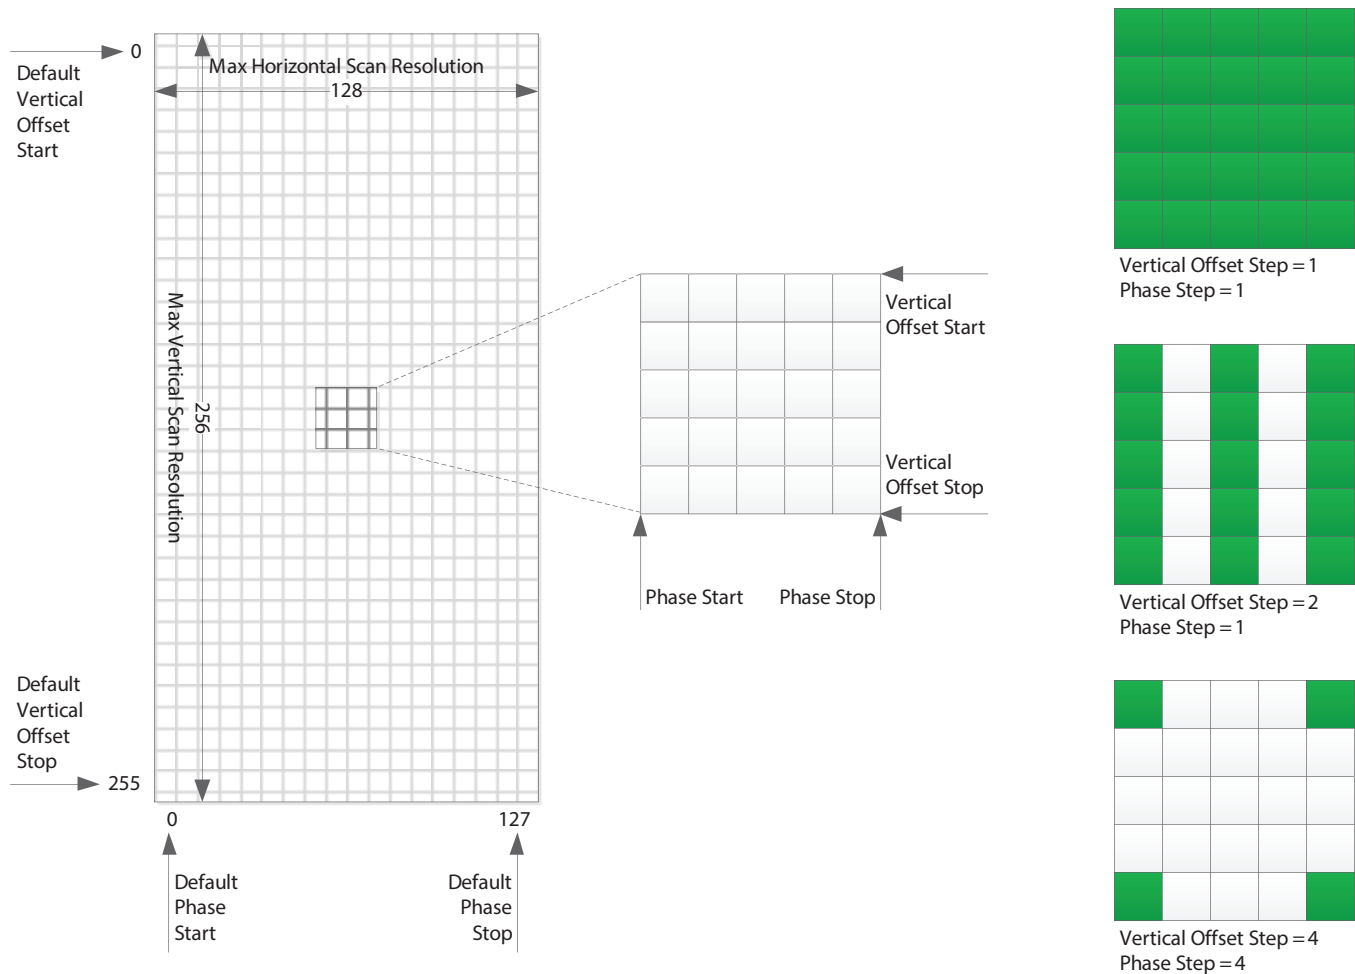

Figure 4-5: Eye Scan Matrix Parameters
Figure 4-5 shows a visual representation of the scan matrix and indicates the spatial parameters that determine the scan area and resolution. Running a scan using the default offset and step parameters, results in 32768 (128x256) samples. The number of samples and thus, the total scan time can be reduced to meet the needs of the application. The scan area can be reduced by reducing the span determined by the vertical and phase start and stop offsets, or the resolution can be reduced by increasing the step size between adjacent samples. On the right in Figure 4-5, there are three step settings used as examples, however there are a total of nine combinations possible. See Table 4-6 for the register addresses and parameter names of the spatial eye scan parameters.
- ♦ Making reference to the Matrix shown in Figure 4-5, the eye scan data starting at $6CC3_h$ is stored in order from left to right, top to bottom, from the last stored vertical/horizontal position in the matrix.